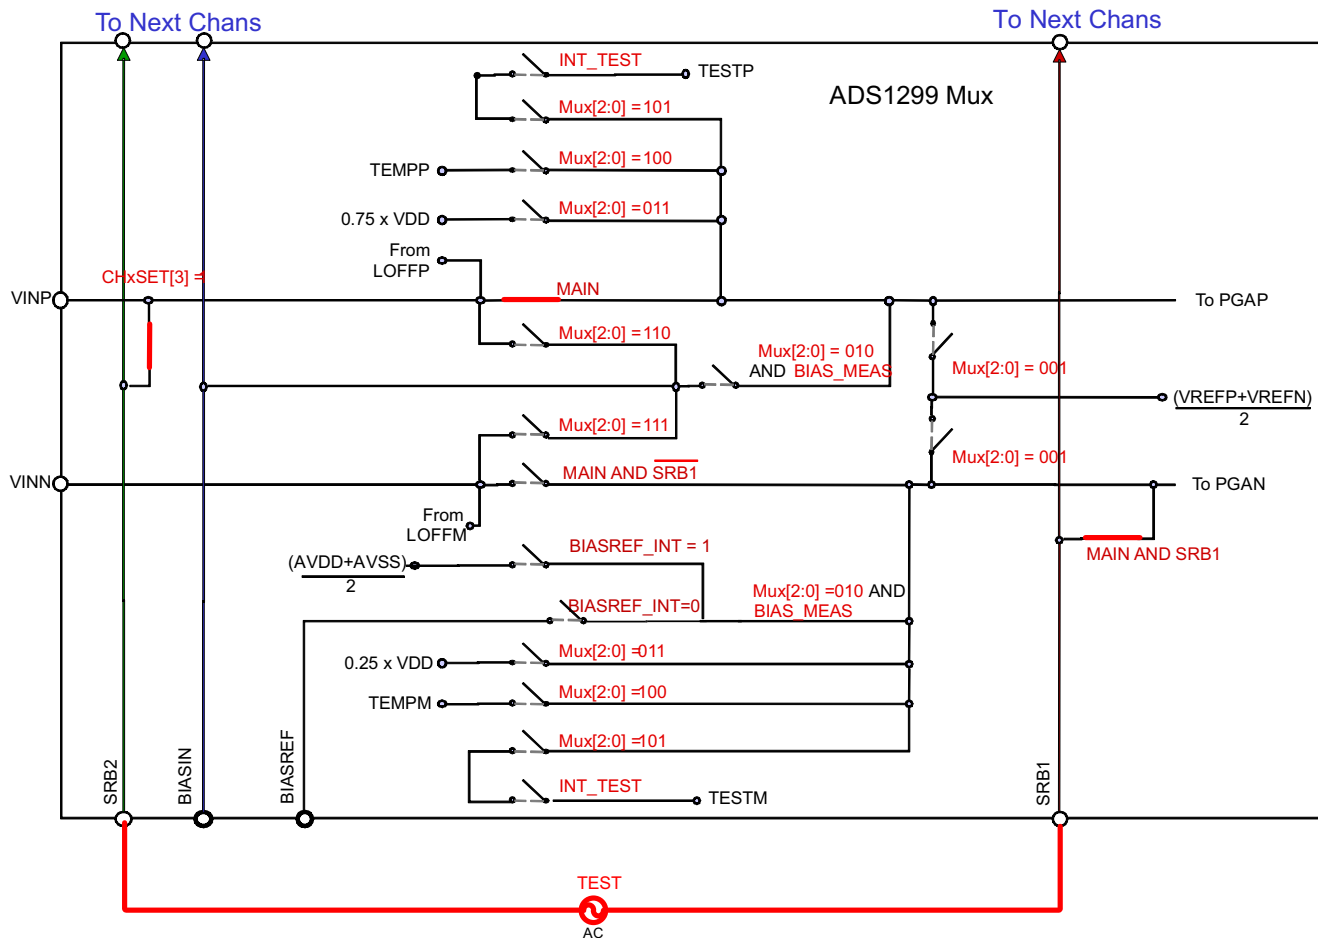

Figure 48. Multiplexer Setting with Positive Electrode Connected to Test Signal
It may sometimes be required to provide a calibration or test signal to ADS1299 device with the positive input connected to the pin or electrode. This can be accomplished by connecting the positive test signal to SRB2 pin and the negative test signal to SRB1 pin. The channel input multiplexer must be set for Normal Electrode (000), SRB2 switch must be closed and SRB1 switch must be closed. This multiplexer setting is illustrated in Figure 48.